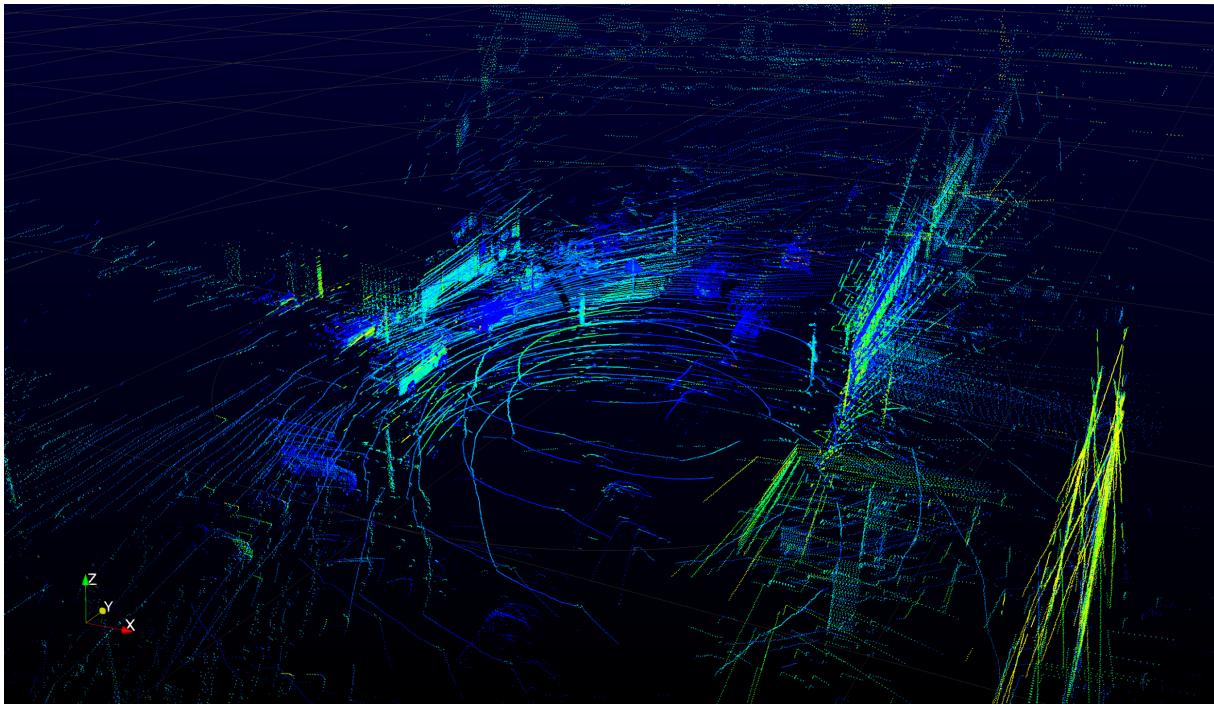

Figure 8 : Distorted point cloud due to wrong configuration file (HDL-32 calibration chosen instead of Alpha Prime)
- The output point cloud is distorted because of the wrong angle corrections, like in **figure 8**.